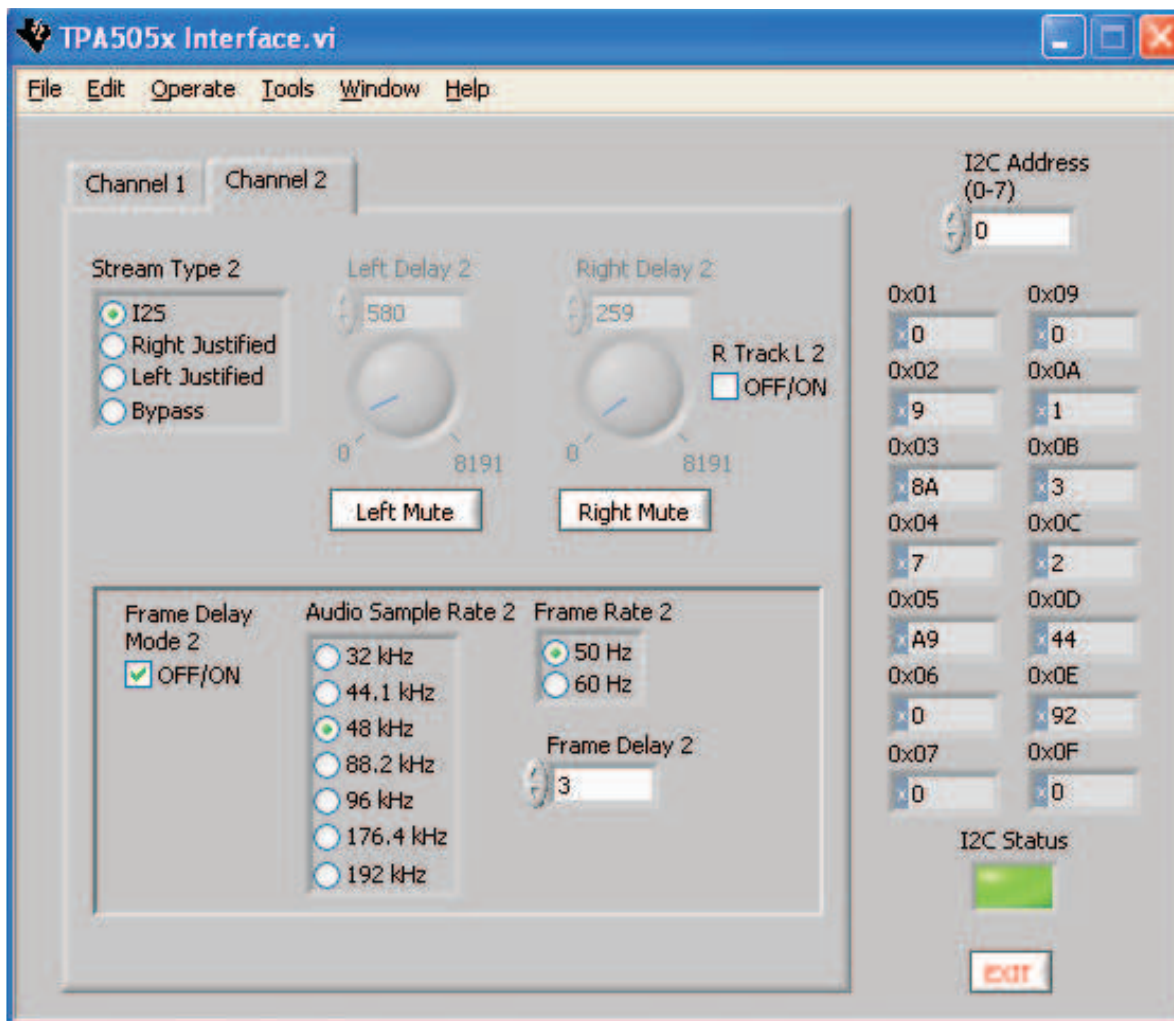

Figure 2. TPA5051 in I²S Mode With Frame Delay
5. The delay also can be controlled with the *Frame Delay* option. Simply click on the *Frame Delay Mode 1 ON/OFF* box, and the frame delay options become available. Frame delay mode affects both left and right channels simultaneously (see Figure 2).
10. The channel selection tab is designed for use with the TPA5051, which has two independent digital audio inputs. Selecting the *Channel 1* tab allows control of the registers for digital audio input 1 (DATA1 of the device). Selecting the *Channel 2* tab allows control of the registers for digital audio input 2 (DATA2 of the device). See Figure 2